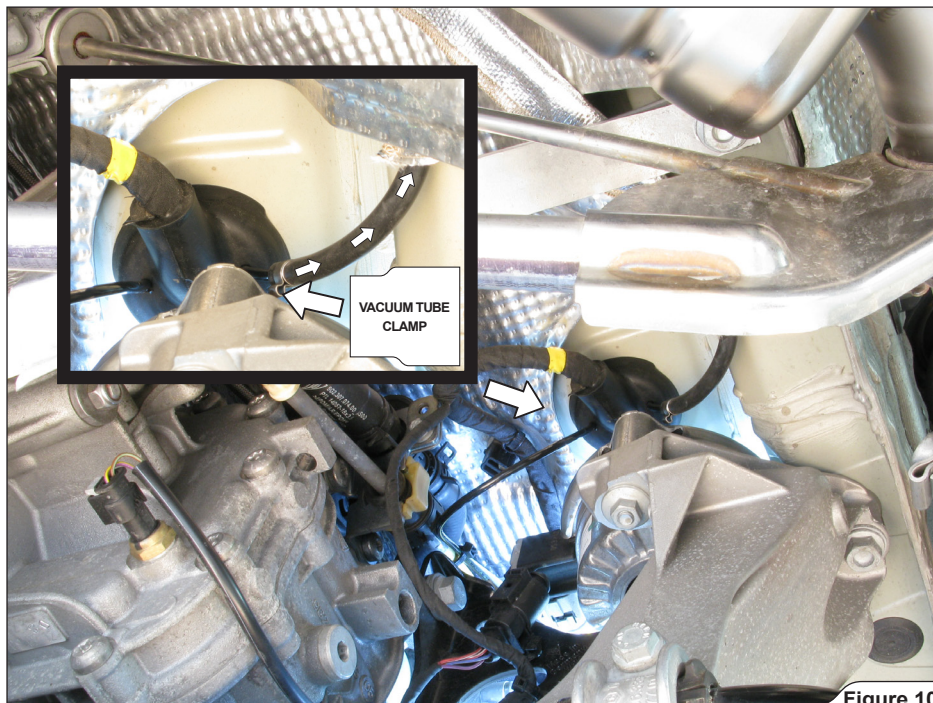

Figure 10
8. Link the two 40cm rubber hoses with heat protection to PVC hoses and vacuum actuators, as shown (**Figure 10, 11, 12**).